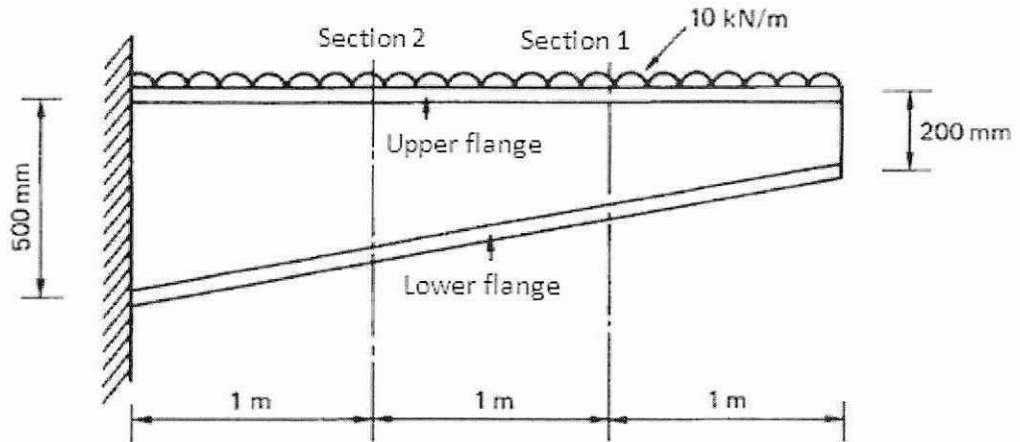

Figure Q2.1
- (b) **Figure Q2.1** shows the front view of a wing spar for an aircraft which carries a uniformly distributed load of 10 kN/m along its length. Each flange has a cross section of 500 mm^2 with top flange being horizontal.